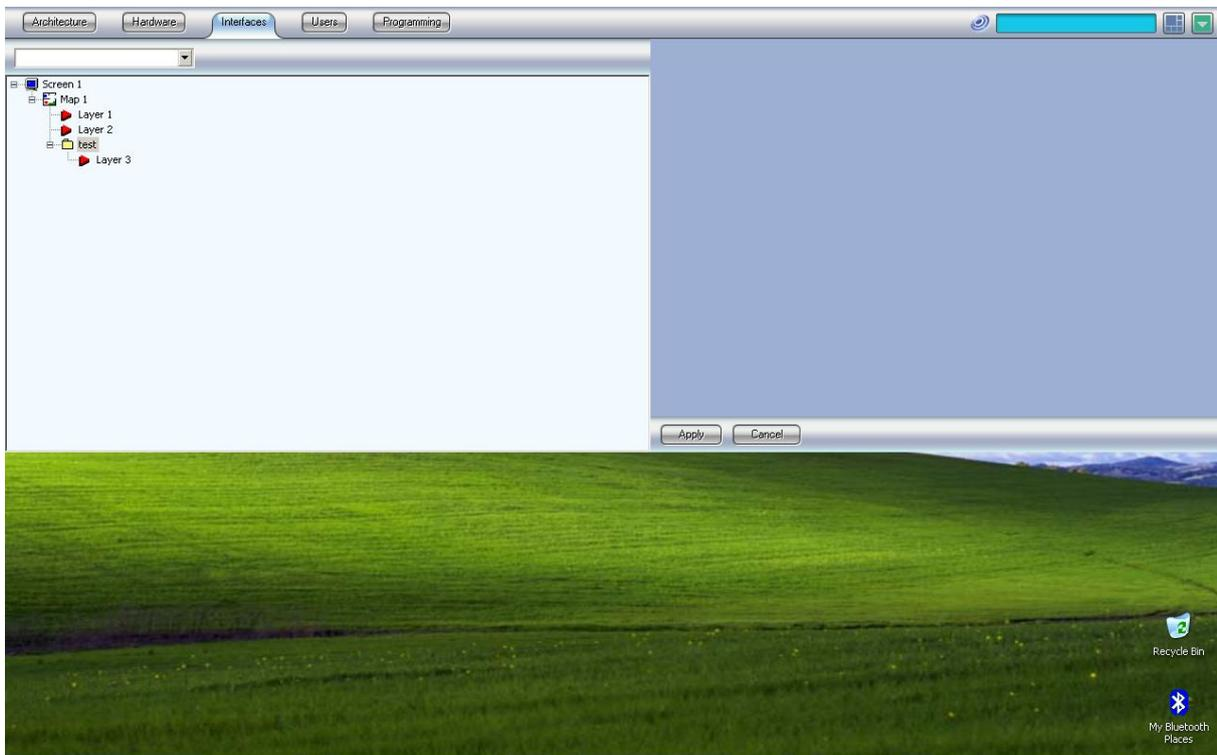

fig.27
8) It is possible to make a logical classification of the layers using folders (fig. 27). This is done with right click of the mouse on "Map 1" and submenu "create folder". To move a layer to a folder the user should right click on the layer and use the "move to folder" submenu.